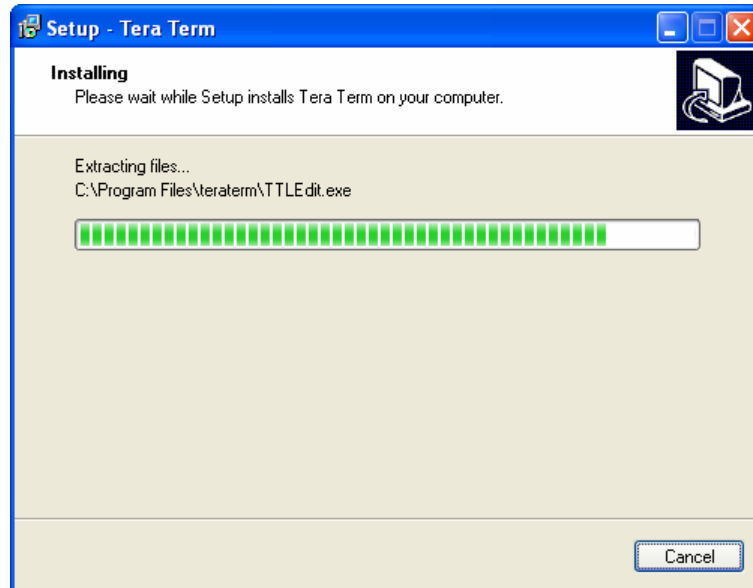

Figure 6-21: Tera Term Installing Screen
15. Tera Term begins installing on your PC (Figure 6-21).